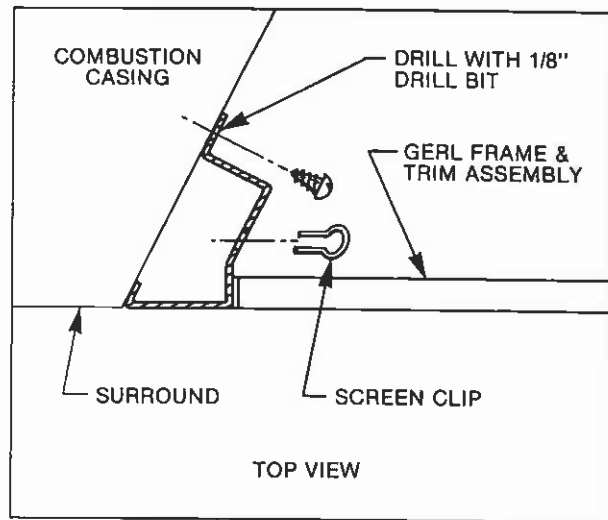

Fig. 7. Fasten the front frame and trim assembly.
**STEP 3:** Drill three (3) holes into the fireplace combustion casing using a 1/8-inch (#30) drill bit. Locate holes by passing the drill bit through the mounting holes in the side trim (Fig. 7). Be sure frame and trim assembly is flush with the fireplace surround before starting to drill. Fasten the frame and trim assembly in place using three (3) 1/2" and #10 Phillips head thread forming screws. The screws should enter through the three (3) mounting holes of the frame and trim assembly and screw into the drilled holes in the combustion casing.
The screen retaining clips removed earlier are designed to anchor the screen at the sides of the fireplace opening. Locate the new screen clip mounting holes at each side of the GERL side channels. (Figs. 7 & 9). Insert the screen clips through a link at the edge of the screen halves in line with the screen clip mounting holes. Insert the open ends of the screen clips into the screen clip mounting holes.